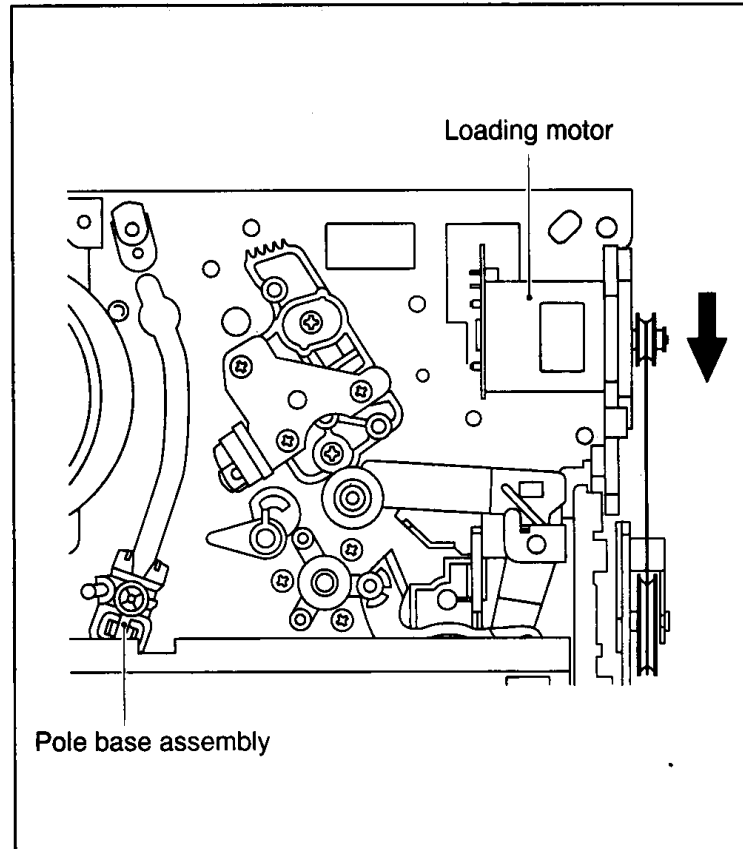
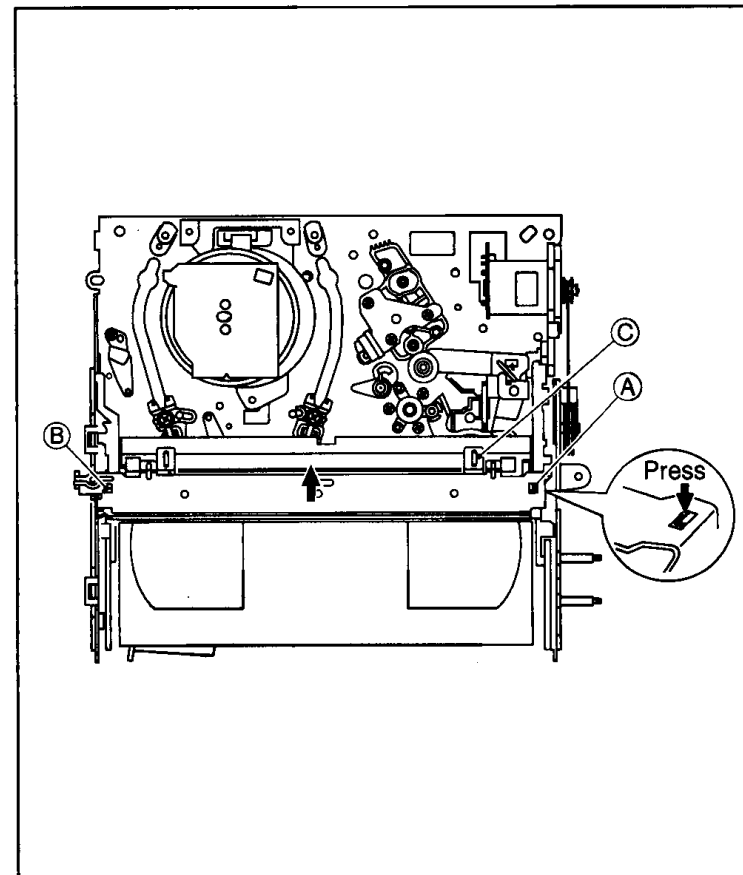

Fig. 2-1-1
Fig. 2-1-2
- (1) Unplug the power cable and remove the top cover, bracket and front panel assembly. (See 1.3 DISASSEMBLY/ASSEMBLY METHOD.)
- (2) Unload the cassette by manually turning the loading motor of the mechanism assembly toward the front. In doing so, hold the tape by the hand to keep the slack away from any grease. (See Fig.2-1-1.)
- (3) Bring the pole base assembly (supply or take-up side) to a pause when it reaches the position where it is hidden behind the cassette tape.
- (4) Move the top guide toward the drum while holding down the lug **A** of the bracket retaining the top guide. Likewise hold part **B** down and remove the top guide. Section **C** of the top guide is then brought under the cassette lid. Then remove the top guide by pressing the whole cassette tape down. (See Fig.2-1-2.)
- (5) Remove the cassette tape by holding both the slackened tape and the cassette lid.
- (6) Take up the slack of the tape into the cassette. This completes removal of the cassette tape.